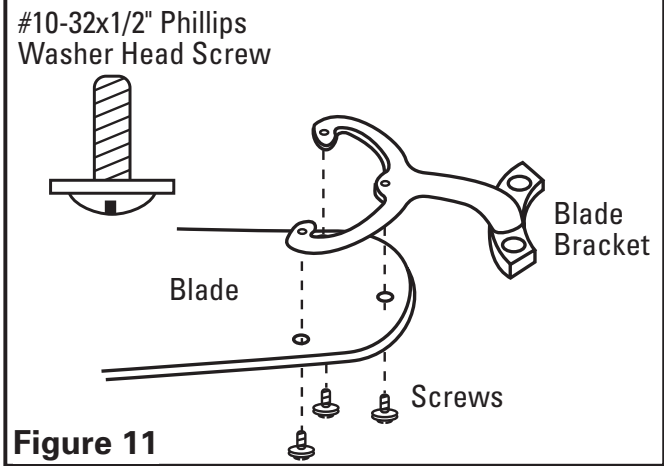

Figure 11
2. Using three #10-32x1/2" Phillips washer head screws, secure one bracket to each of the blades. Complete this assembly before attaching blades to the ceiling fan (**Figure 11**).